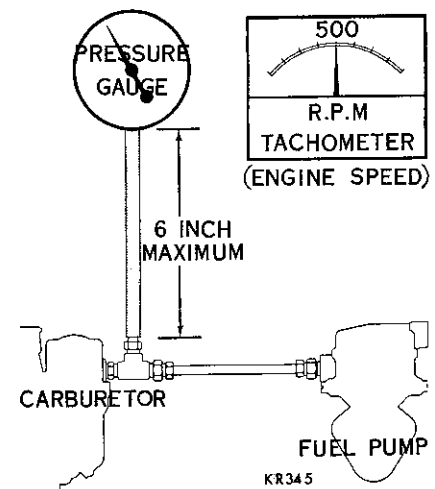

Fig. 2—Pressure Testing the Fuel Pump
(1) Insert a "T" fitting in the fuel line at the carburetor, as shown in (Fig. 2).
(2) Connect a 6 inch piece of hose between the "T" fitting and gauge Tool C-3411. (The hose should not exceed 6 inches. A longer hose may collect fuel and the additional weight would be added to the pressure of the pump and result in an inaccurate reading.)
(3) Vent the pump for a few seconds (this relieves any air trapped in the fuel chamber). If this is not done, the pump will not operate at full capacity and a low pressure reading will result.
(4) Connect a tachometer, then start the engine and run at 500 rpm. The reading should be from 3½ to 5 psi. The pressure should remain constant or return to zero very, very slowly when the engine is stopped. An instant drop to zero indicates a leaky outlet valve. If the pressure is too low, a weak main spring or improper assembly of the diaphragm may be the cause. If the pressure is too high, the main spring is too strong.